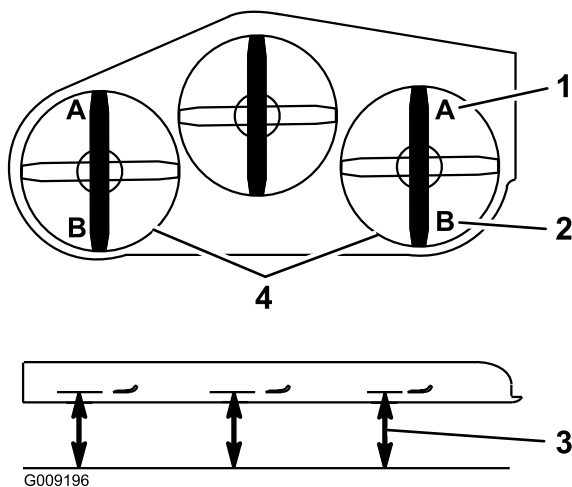

Figure 95
9. On both sides of the deck, measure from the level surface to the front tip of the blade (Position A). The measurement should read 7.6 mm (3 inches); refer to Figure 95.
15. On both sides of the deck, measure from the level surface to the back tip of the blade (Position B). The measurement should read 8.3 cm (3-1/4 inches); refer to Figure 95.